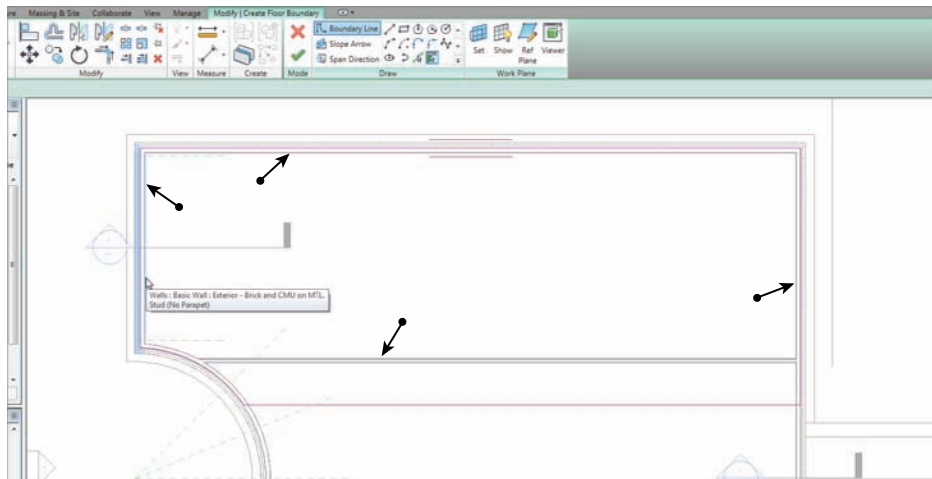

FIGURE 10.57 Adding the floor outline to the walls. Be sure to offset the line 5'-0" (1500mm) from the south wall. This will be the stair landing.
6. Pick the walls, and make sure the lines are set to the core centerline, as shown in Figure 10.57.
7. When picking the south wall, set the offset to 5'-0" (1500mm) in the Options bar in Figure 10.57.